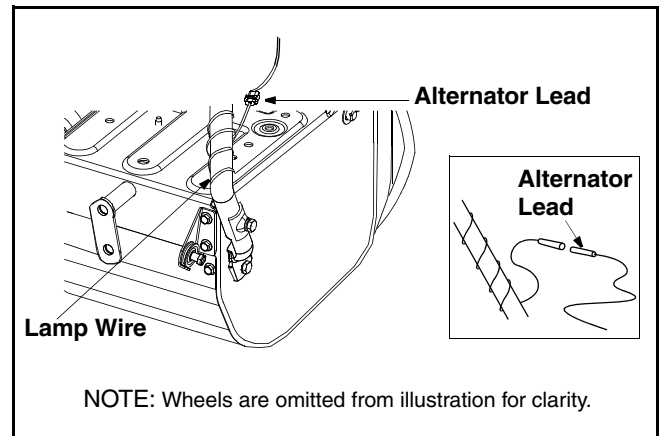

Figure 4
- If not already attached, unwrap the headlight wire which is attached to the headlight, beneath the handle panel. Wind the headlight wire around the lower right handle until excess slack is removed. See Figure 4.